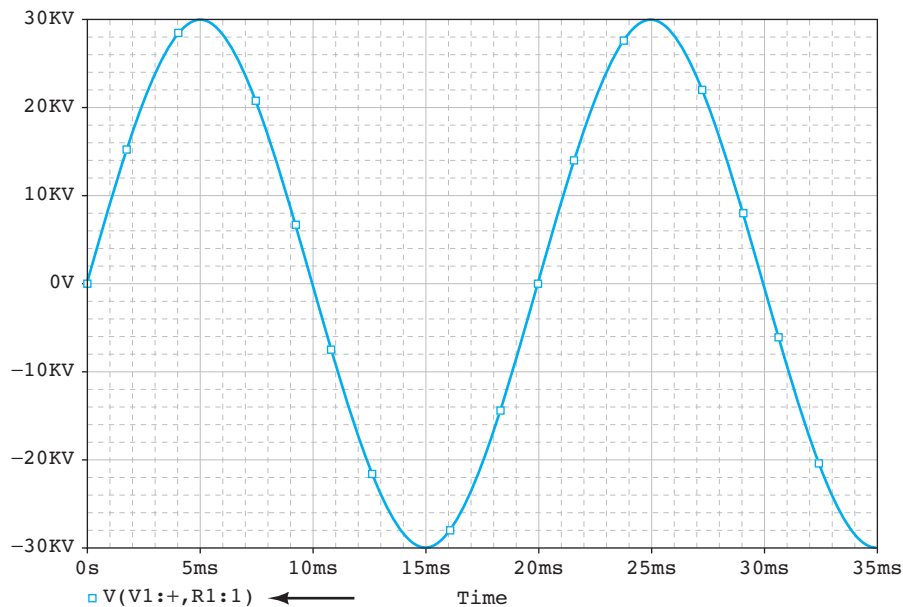

FIGURE 2.76 Voltage plot for time domain simulation.
6. Notice that the Simulation Schematic Window will plot the voltage plot of the circuit, which is shown in Figure 2.76.
“V(V1:+,R1:1)” that is located near the arrow in Figure 2.76, and press the “Delete” key on the keyboard.
The following steps explain how to use the “copy to clipboard” function in PSpice. For these instructions, we will use the simulation plot for Example 2.13 that is shown in Figure 2.76.